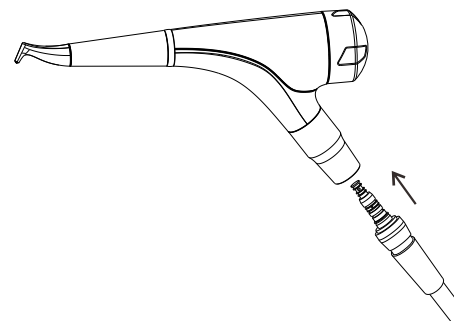

Fig. 3 Connection method of AirJet 1S and 2
**AirJet 1S and 2:** directly insert the quick connector into the Power Jet Handpiece tail connector, and then tighten the quick connector. (See Figure 3)